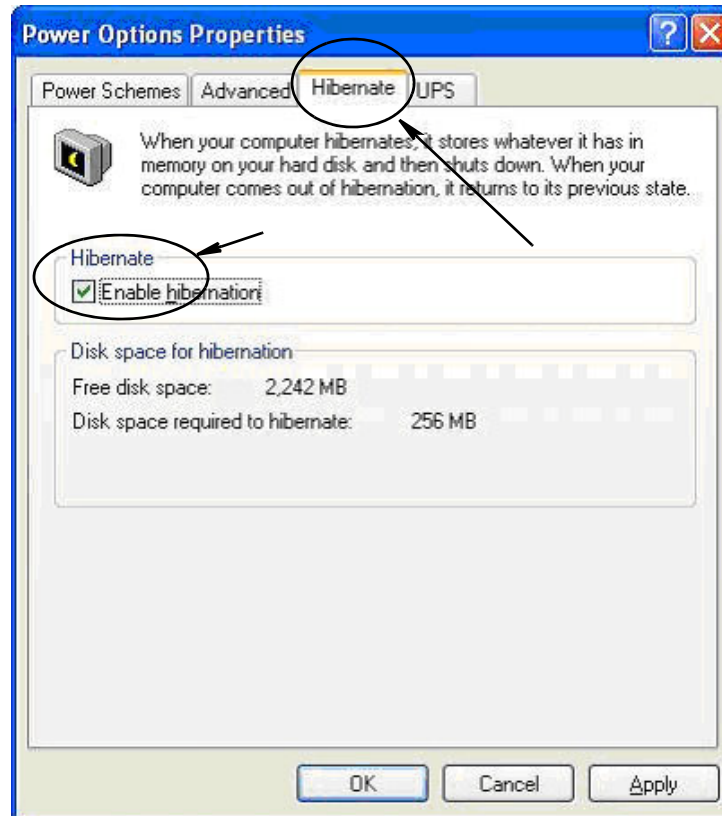

FIG. 31
3. Select the Hibernate tab. Turn off hibernation by clearing (unchecking) the Enable Hibernation check box . Click Apply and OK to close all windows (FIG. 31) and save the changes.